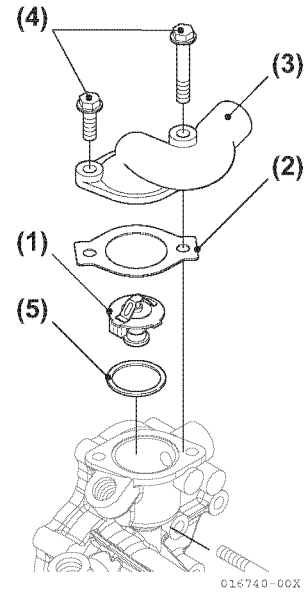

Figure 7-31
4. Remove two bolts (Figure 7-31, (4)).
5. Remove cover and gasket (Figure 7-31, (3),(2)).
6. Remove the thermostat (Figure 7-31, (1)).
2. Change new gaskets (Figure 7-31, (2),(5)) install on coolant pump housing.